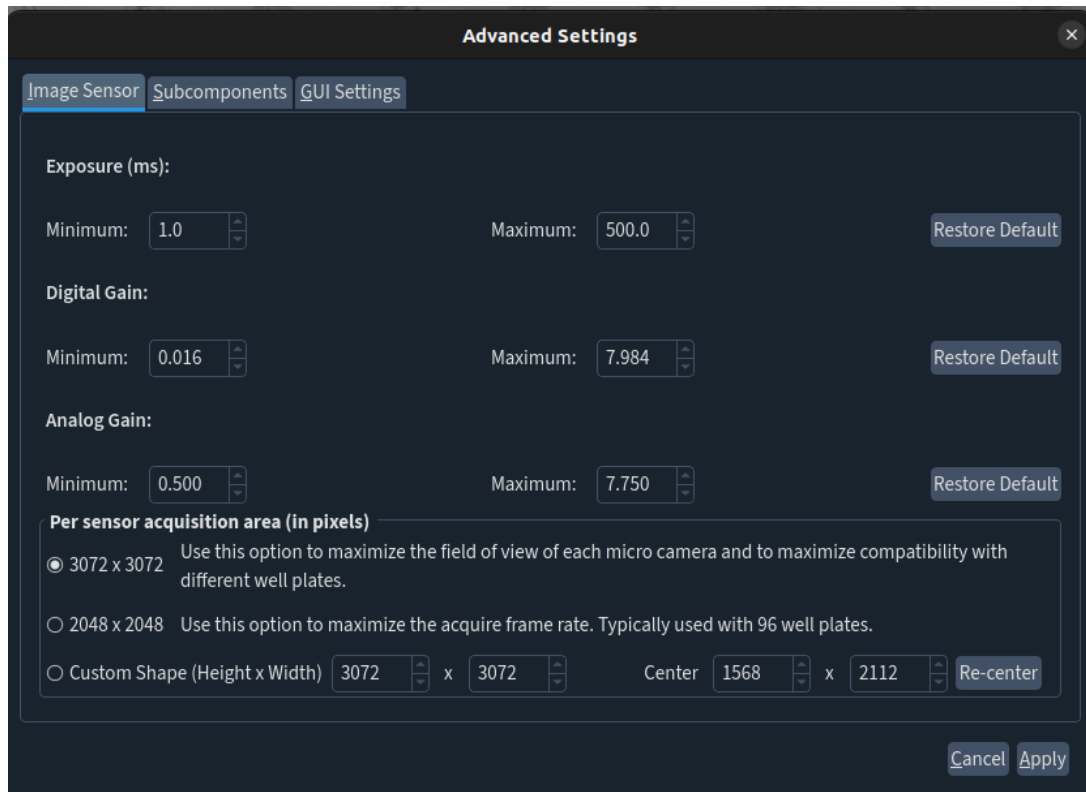

Fig 89: Advanced settings panel.
2. Open the “Additional Settings” under the “Advanced” dropdown (Fig 89).